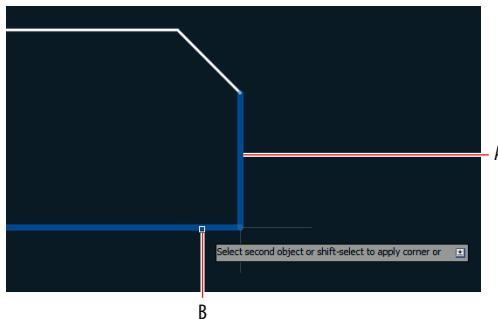

FIGURE 3.8 Filleting with a zero radius to form a corner
9. Type **F** (for Fillet), and press Enter. Verify that Radius is set to 0 in the Command window, and then click the vertical and horizontal lines on the portions of the lines that you want to keep (marked A and B in Figure 3.8).